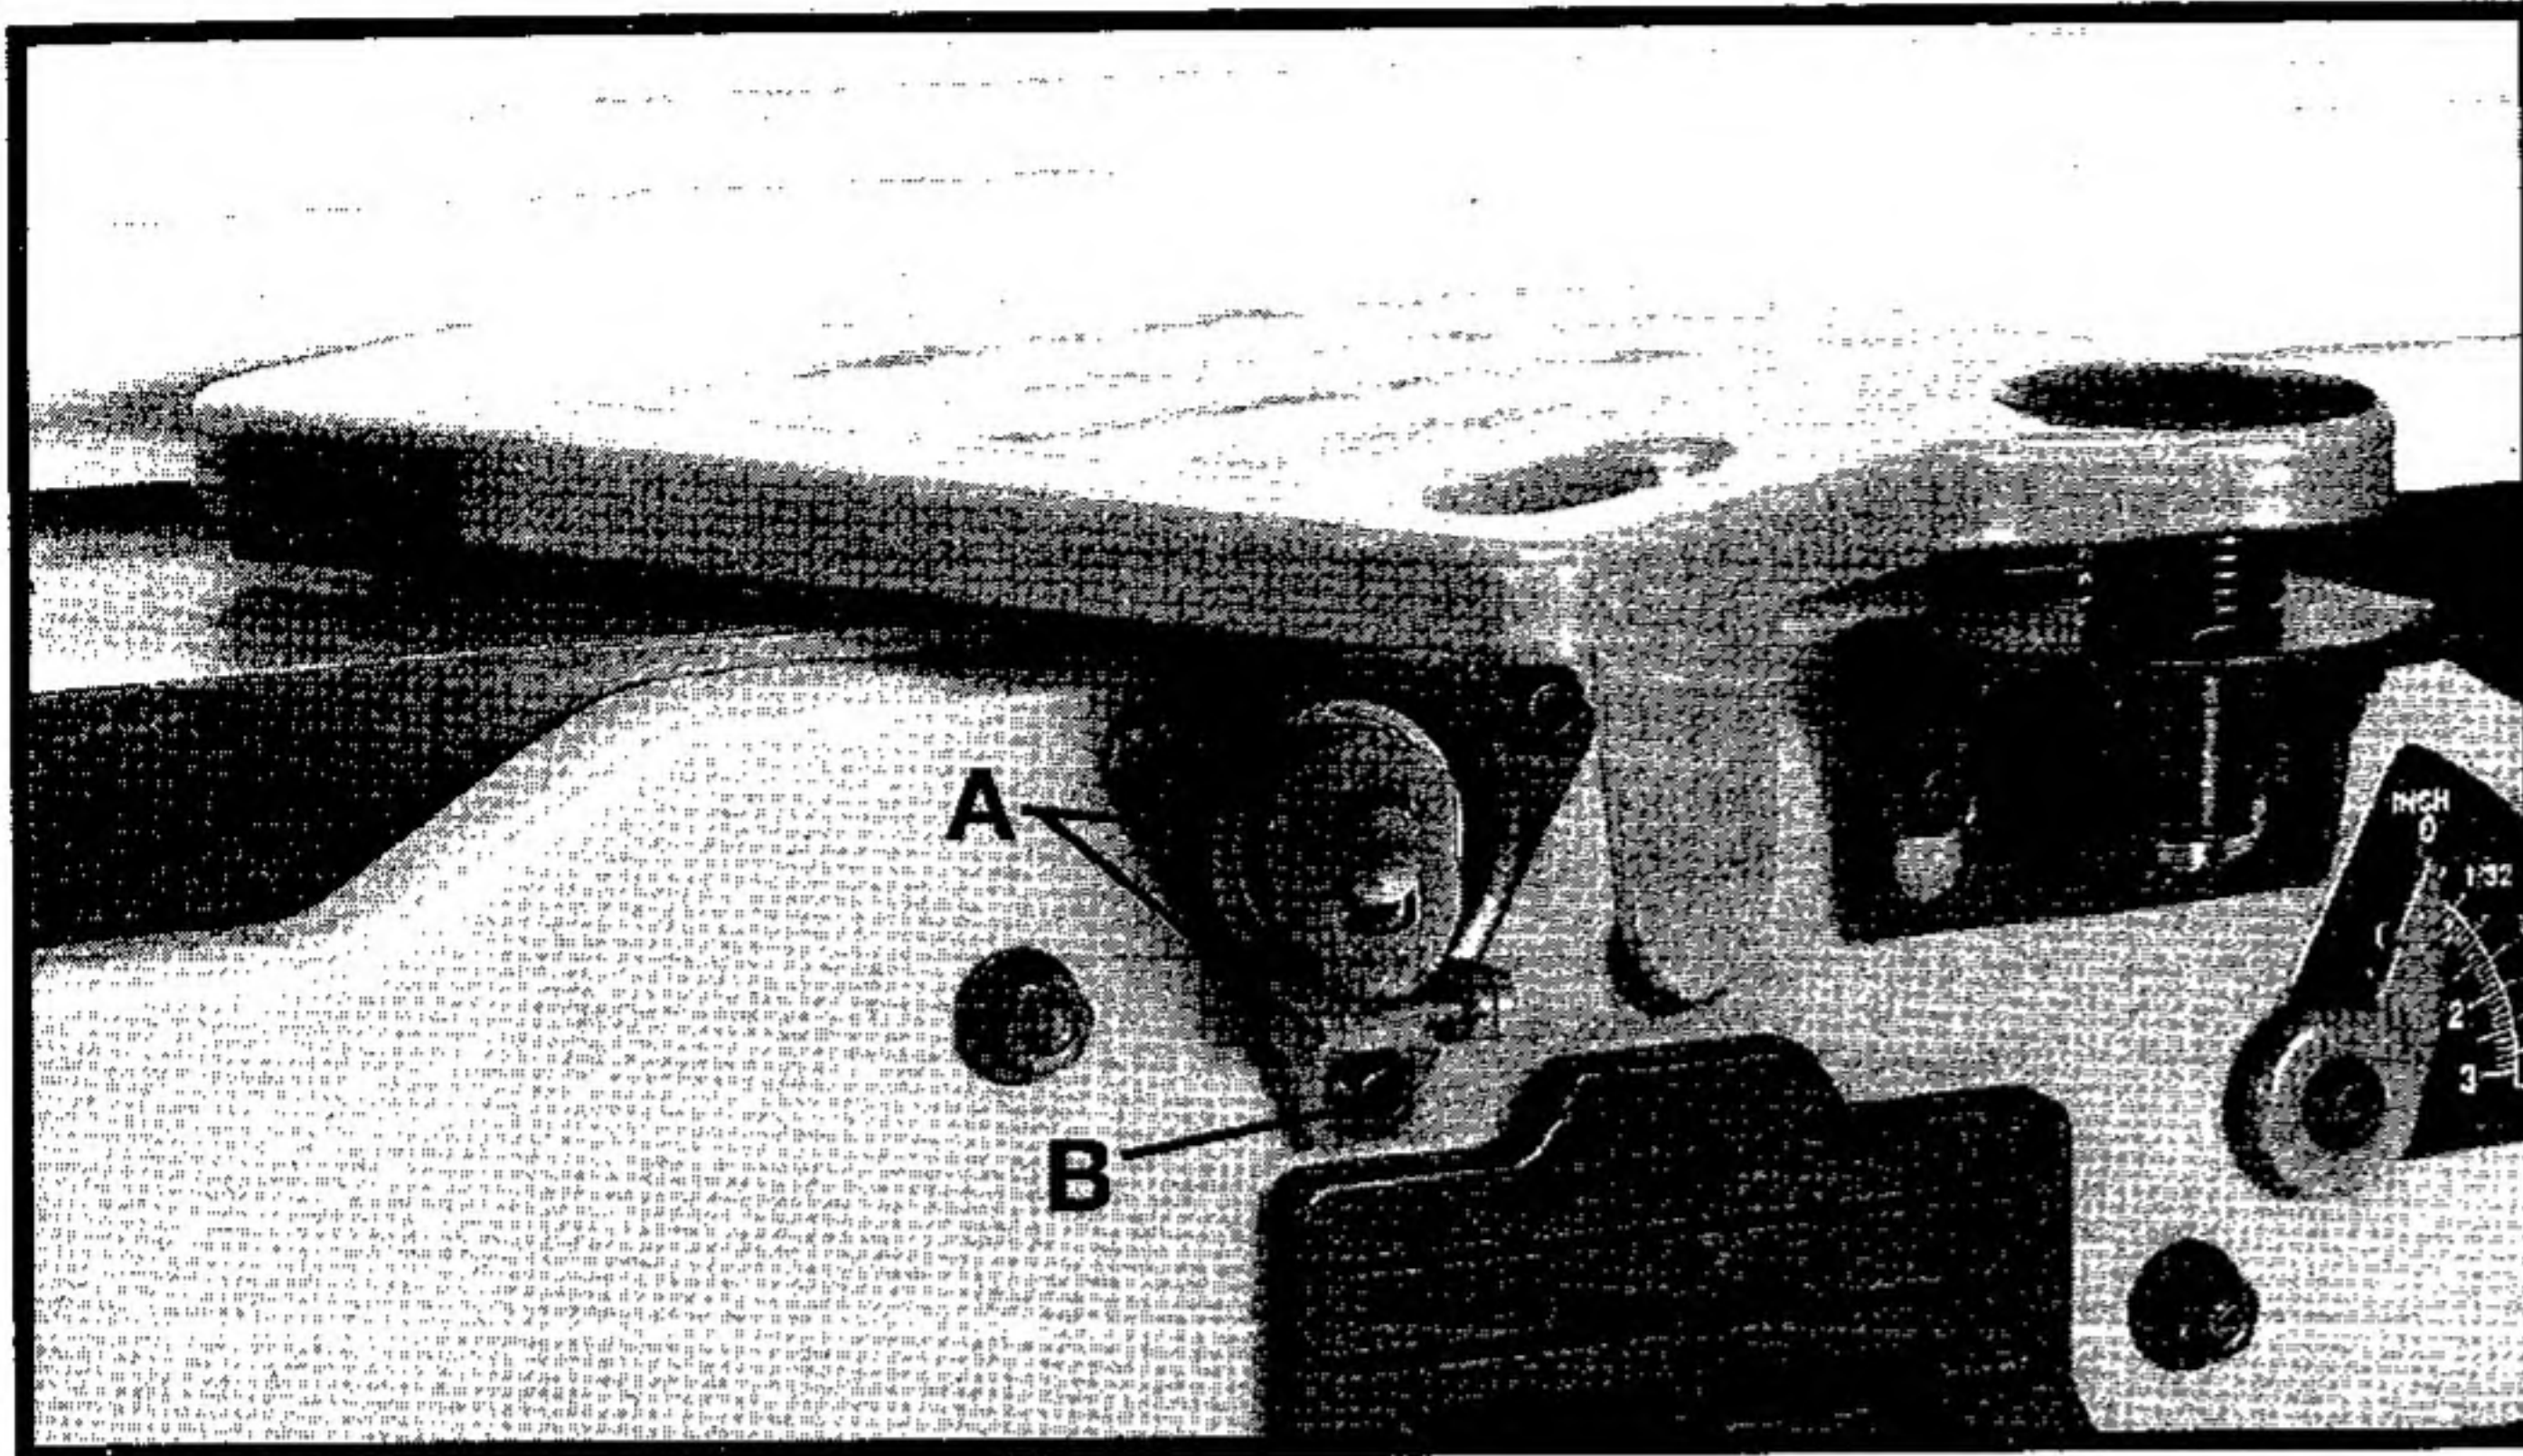
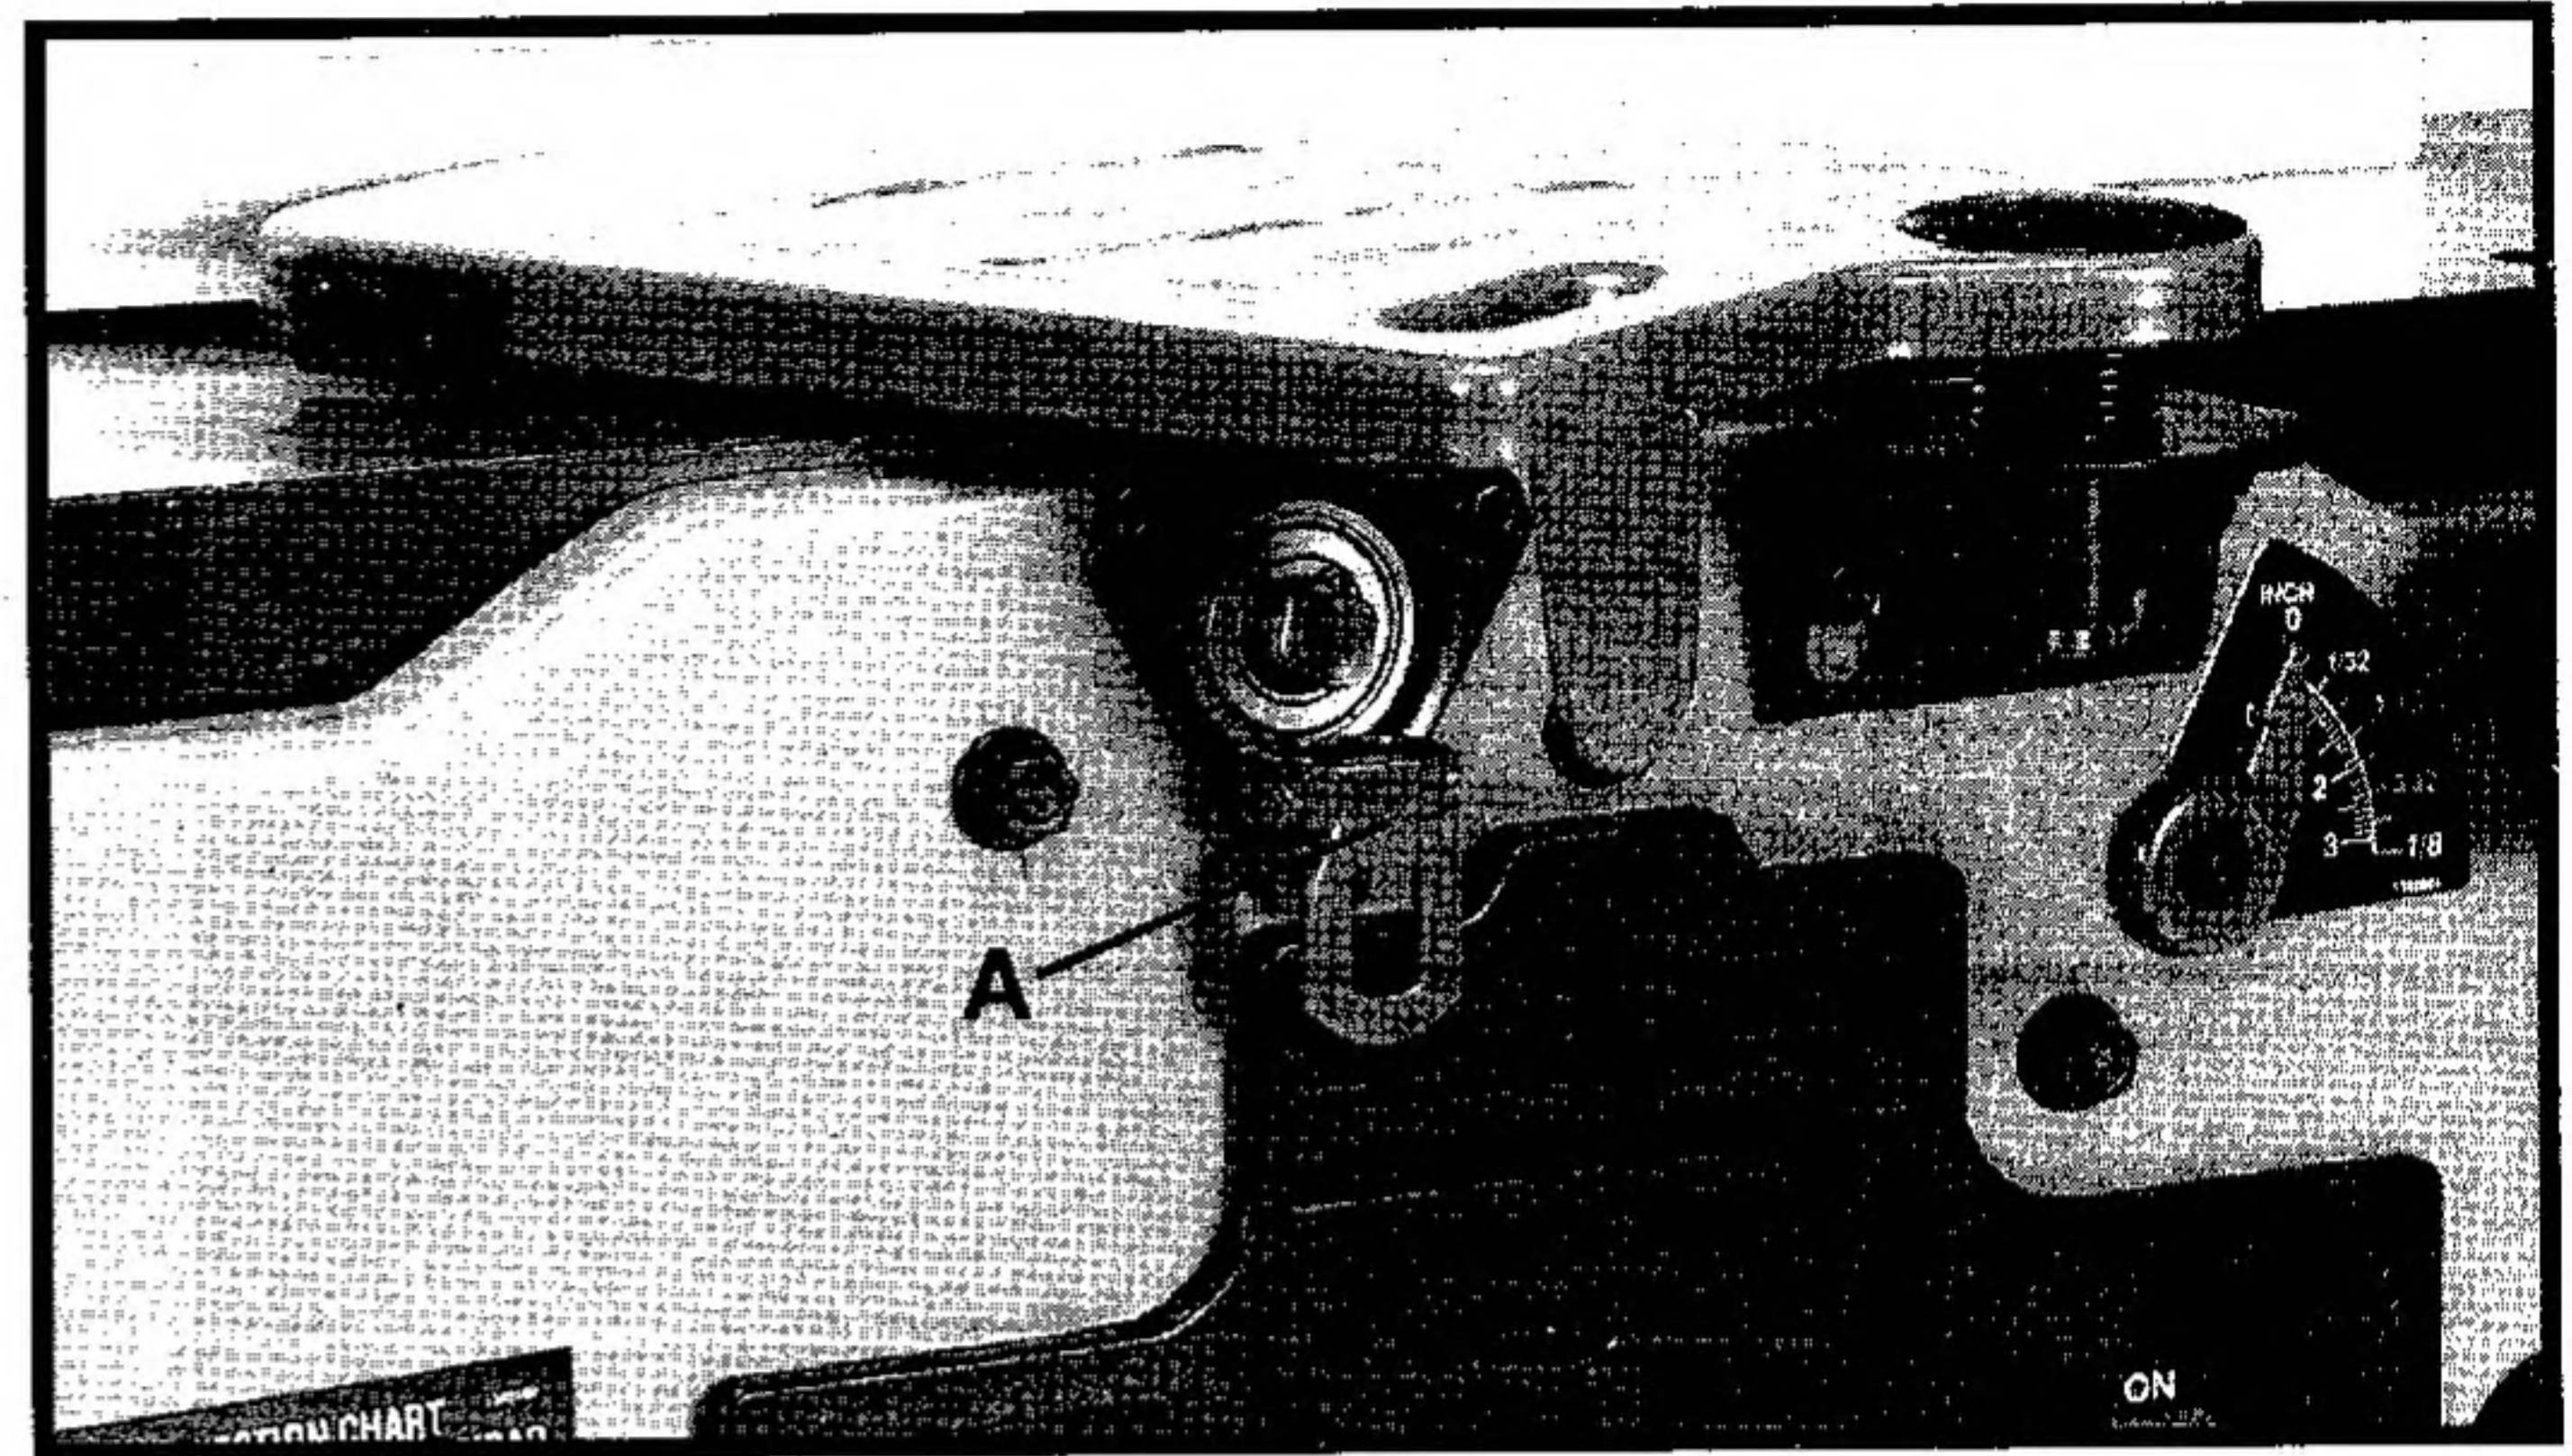

Fig. 15
Fig. 16
Assemble cutterhead lock (A) Fig. 15 to the front side of the jointer base, using the M6x1x12mm button head screw (B).
**NOTE: THE CUTTERHEAD LOCK (A) IS TO BE ENGAGED WITH THE CUTTERHEAD SHAFT (FIG. 15) ONLY WHEN SETTING KNIVES. ALL OTHER TIMES, THE CUTTERHEAD LOCK (A) SHOULD BE DISENGAGED FROM THE CUTTERHEAD (FIG. 16).**